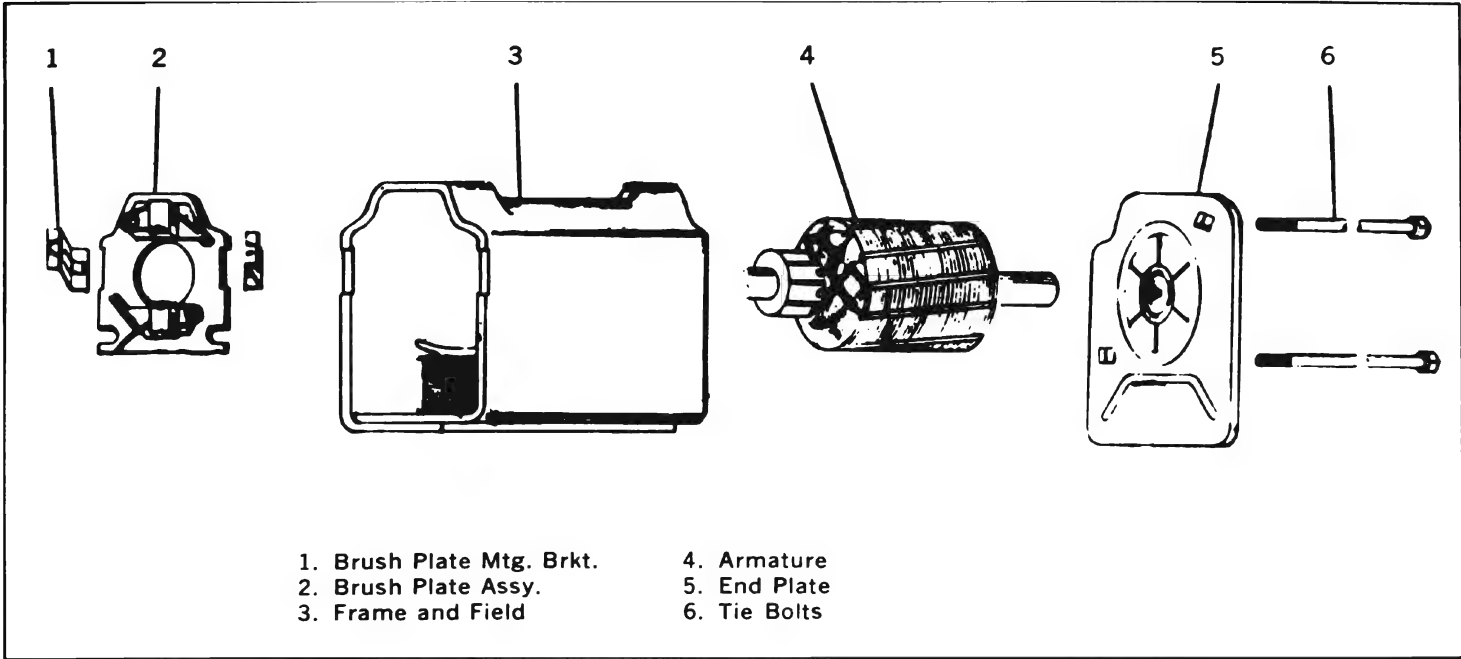

Figure 10-107—Motor Assembly
3. Move brushes away from armature and slide armature out of frame and field assembly. Pull end cap assembly off armature. See Figure 10-107.